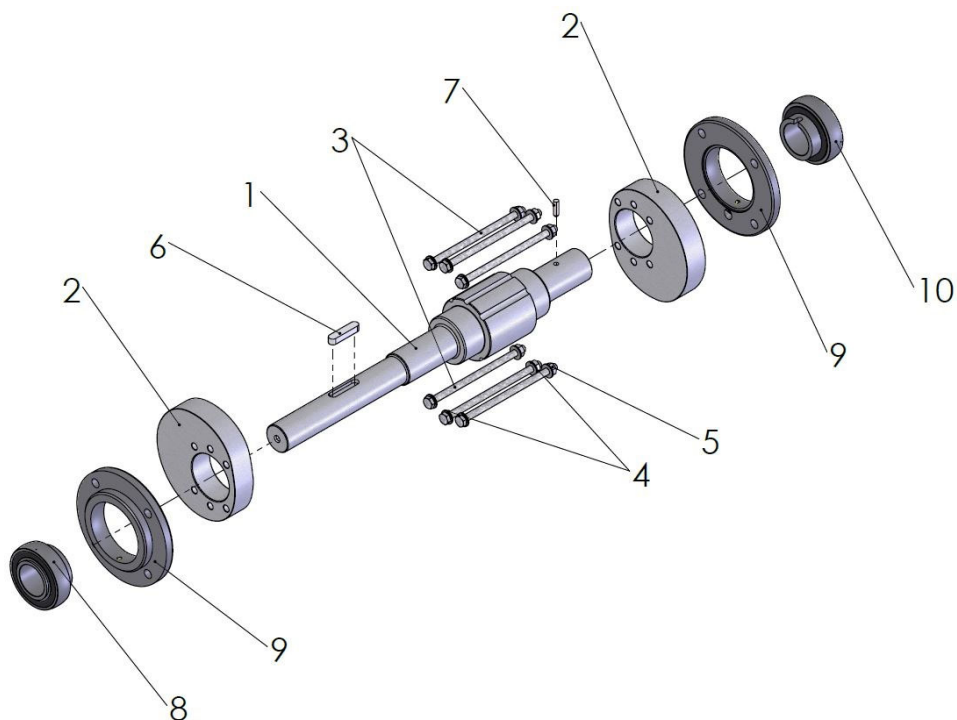
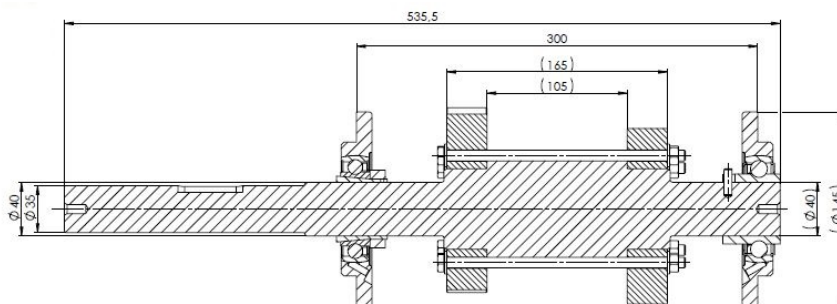

Fig. 8-5: Exploded-view drawing – drive train
Fig. 8-6: Pre-mounting dimension
6. Tighten the fixed bearing (8) (Fig. 8-5: Exploded-view drawing – drive train) as specified by the manufacturer (section 12.6 "Manufacturer's instructions for fixation of the tensioning bearing") (install situation as specified in Fig. 8-6: Pre-mounting dimension and secure with the securing collar).
- The item numbers in the work steps refer to Fig. 8-5: Exploded-view drawing – drive train.